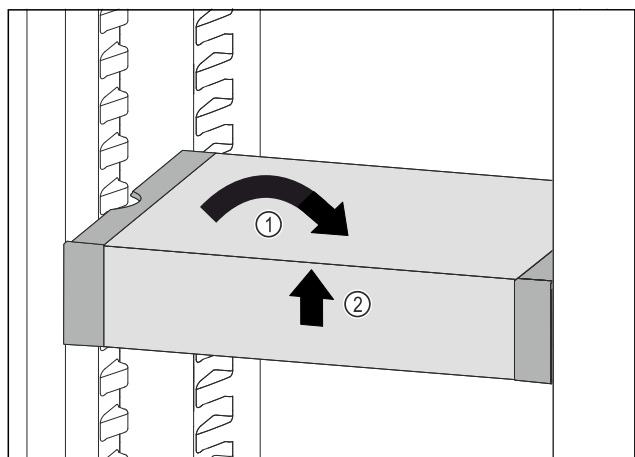

Fig. 81
- ▶ Set VarioSafe straight. Fig. 81 (1)
- ▶ Lift VarioSafe at the front. *Fig. 81 (2)*